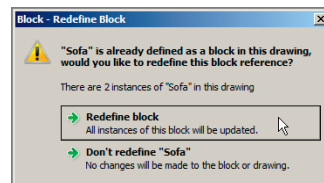

FIGURE 9.12 You are asked whether you want to redefine a block before it is done.
6. Click the Browse button in the Insert dialog box. Select the `Sofa.dwg` file you saved in step 2. Click OK in the Insert dialog box, and the Block – Redefine Block dialog box appears (see Figure 9.12). Notice that it says that there are two `Sofa` block references in the drawing. These are two sofas in Reception. Click Redefine Block.